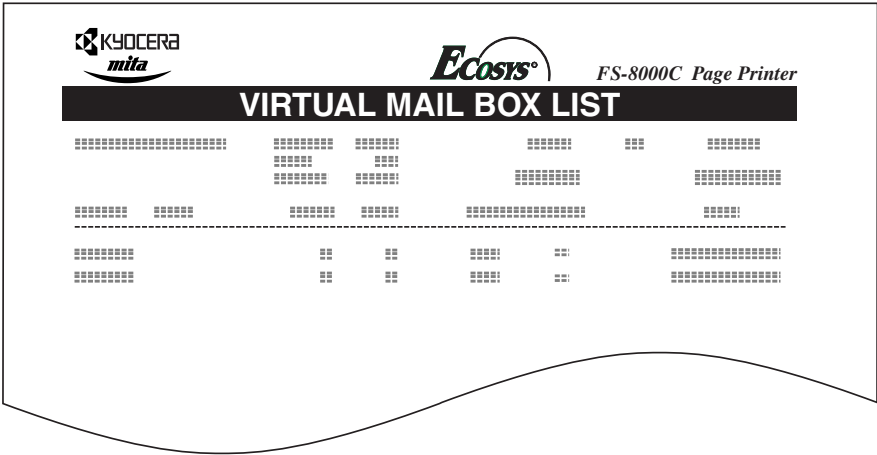

Figure 3-6
- 6** Press the **ENTER** key again. The printer prints a list of jobs currently posted in the virtual mailboxes as shown in Figure 3-6 below.